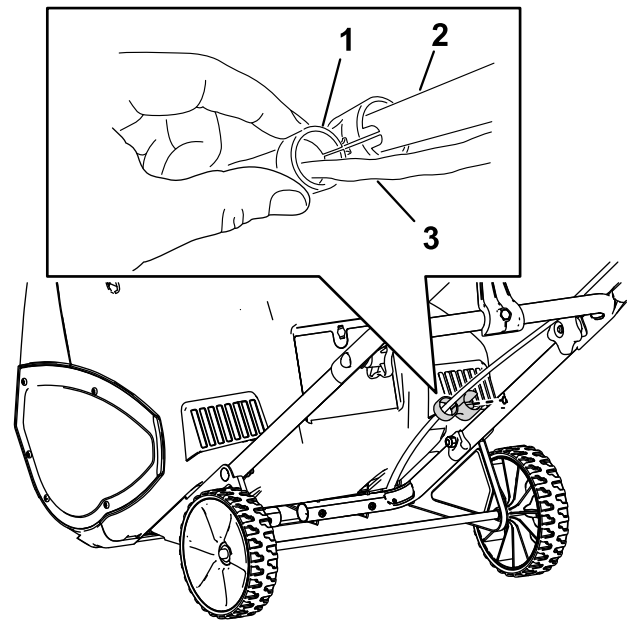

**Figure 1**
2. Install the upper handle to the lower handle of the machine with the handle knobs, curved washers, and oval bolts as shown in Figure 1.